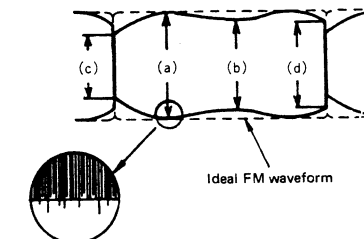

Fig. 2-16 FM waveform (maximum output)
5. Confirm that depressions at the drum intake (c) and drum exit (d) exceed 3.0 scale divisions (Fig. 2-16).